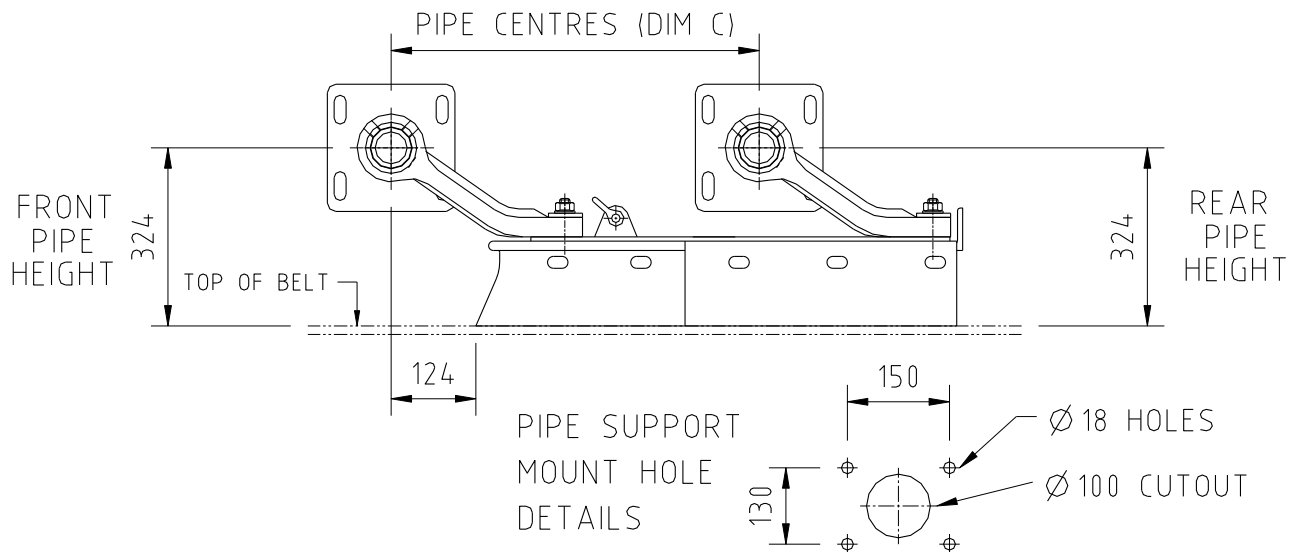

Figure 3 – Relationship to Belt Position
- Step 1** Place the HDRBC without support pipes or tensioning straps on the belt at the selected position. Ensure that the HDRBC frame rear cross member is 90° to the centre line of the belt (see fig 3).